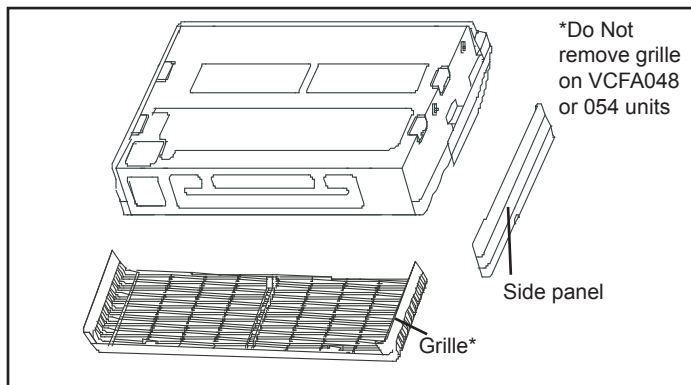

Figure 4. Remove Side Panel and Grille
- Remove the side panel and the grille. See figure 4. **NOTE** - Do not remove the grille on VCFA048 or 054 models.